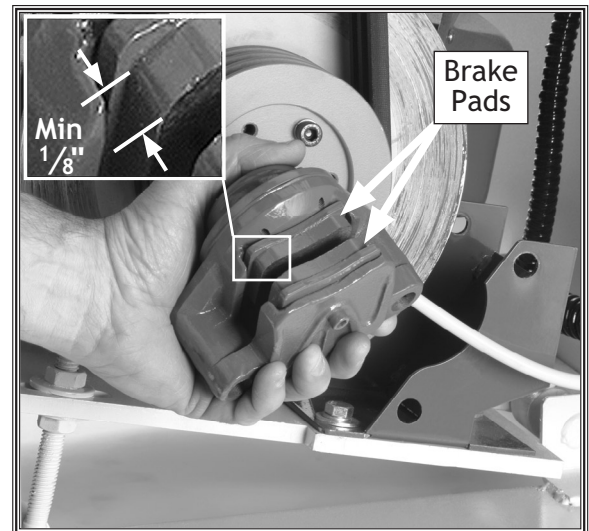

Figure 33. Example of brake caliper removed for access to brake pads.
3. The brake pads consist of a metal plate with a composite pad. With a fine ruler, measure the thickness of the composite pad only. If one of the pads is below $\frac{1}{8}$ " (**Figure 33**) (approximately 3mm), replace both.